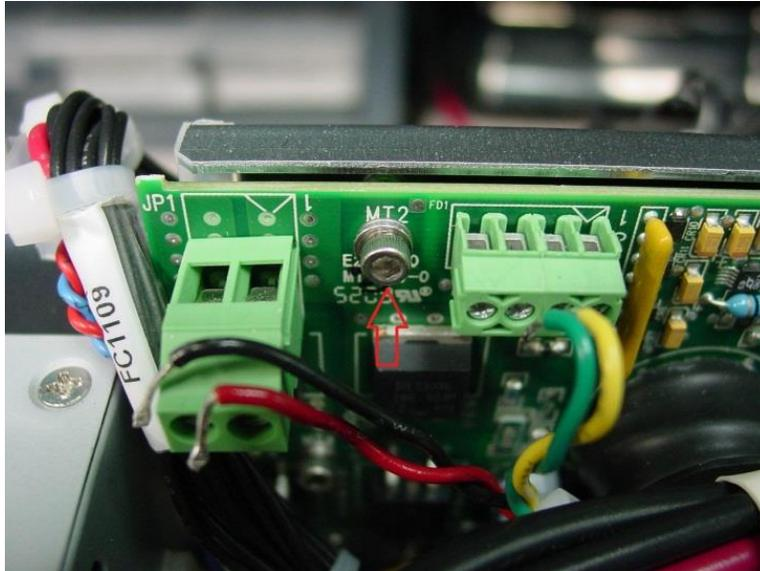

Figure 4: Remove 4 Screws and Washers
7. With a 3/32" ball driver, remove the four screws and mounting hardware attaching the board to the eDrive. The screws are labeled **MT1**, **MT2** Shown in Figure 4, **MT3**, and **MT4**.